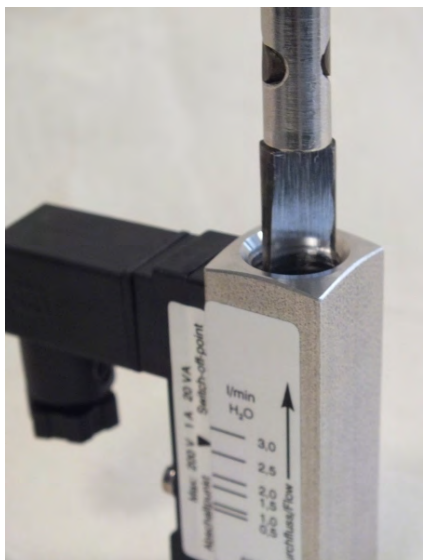

Fig. 48: Seat threaded ring (outlet)
6. ➤ Lightly seat the threaded ring (outlet) with the aid of the threaded ring insertion tool and tighten with a torque wrench (Fig. 48), observing the proper torque (↪ Chapter 11.1 “Tightening torque” on page 67)